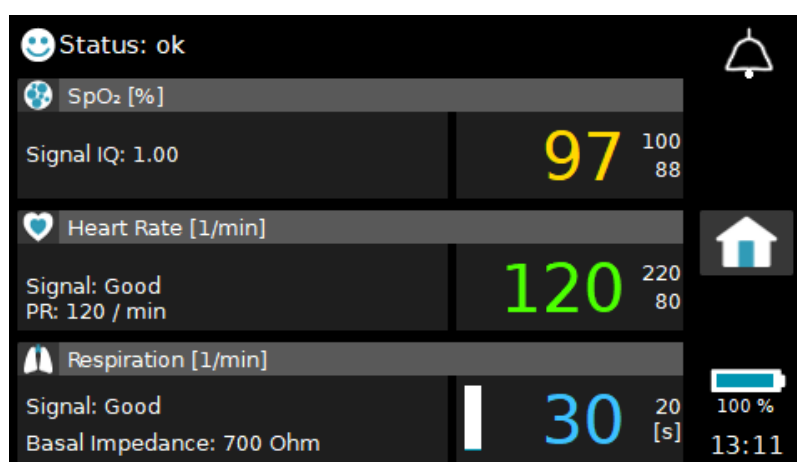

Fig. 77 View 1 Screen Content with Show PR/HR Set to ON
By setting the **Show PR/HR** setting to **On**, the pulse rate (PR) is displayed simultaneously to the heart rate (HR) in both **View 1** and **View 2**. In **View 1**, the current value of **PR** is displayed on the left-hand side of the screen below the signal quality indicator in the **Heart Rate/Pulse Rate** workspace, as shown in Fig. 77.